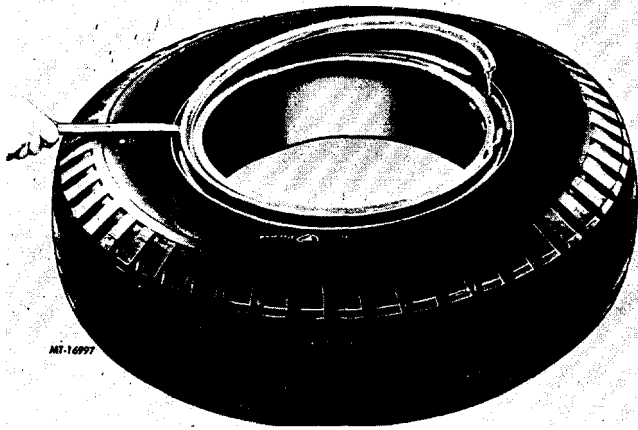

Fig. 45
3. Insert rim tool between lock-ring and sidering. Press down to pry ring up and continue around rim until lock-ring is free (Fig. 45). Remove lock and side-rings from rim. Turn assembly over, unseat second tire bead, stand tire up and remove rim base.